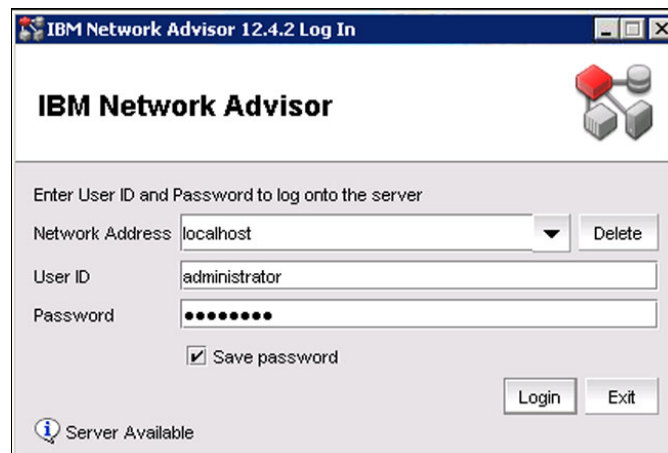

Figure 4-26 IBM Network Advisor login window
22. A login window opens and prompts you to provide the login credentials, as shown in Figure 4-26. The default credentials are administrator/password. After you provide the credentials, click **Login**.